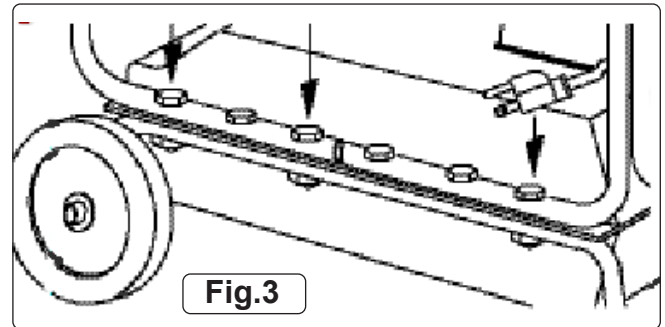

Fig.3
- 4.3. Place main structure on Wheel Frame and fasten with nuts, Bolts and washers provided, see fig.3.